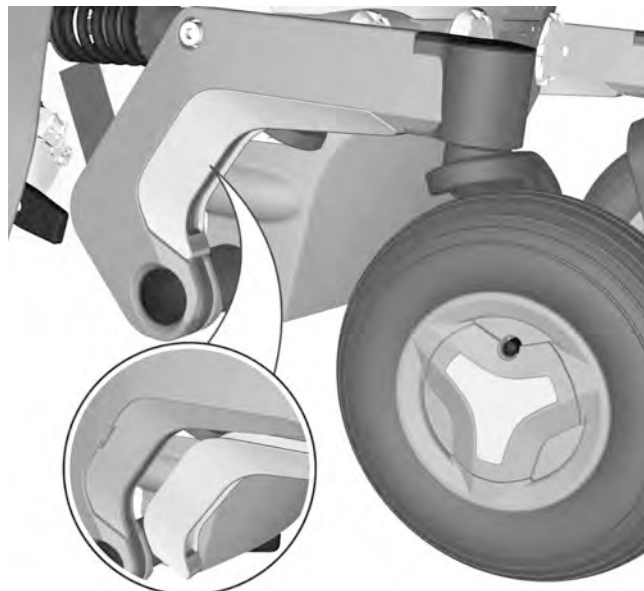

Figure 12. Link arm accent colour cover.
2. Remove the accent colour cover by carefully bending it loose from underneath of the link arm by using a screwdriver. See fig. 12.
2. Fit the link arm accent colour cover by carefully pushing it in to position until you hear a “click”. See fig. 12.